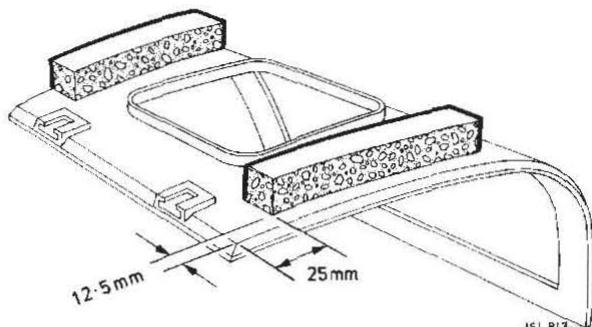
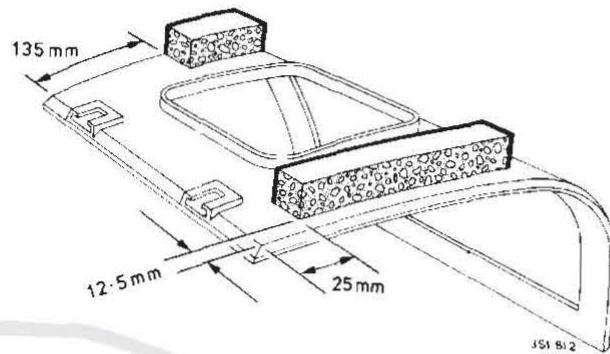

Fig 2
Fig 3
To eliminate a problem of harness connectors rattling/vibrating against the underside of the centre console finisher a modification was introduced on all model variants from VIN 525078. This modification called for foam pads to be added to the finisher at the locations indicated in (Figs 2 and 3).
NOTE: (Fig 2) relates to manual transmission vehicles and (Fig 3) to automatic transmission vehicles.
- 2 Depending on transmission fitted to the vehicle, ie auto or manual. Apply self adhesive expandable foam at the locations indicated in (Figs 2 or 3).